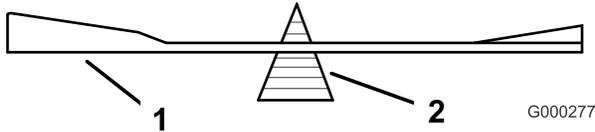

Figure 59
2. Check the balance of the blade by putting it on a blade balancer (Figure 59). If the blade stays in a horizontal position, the blade is balanced and can be used. If the blade is not balanced, file some metal off the end of the sail area only (Figure 59). Repeat this procedure until the blade is balanced.